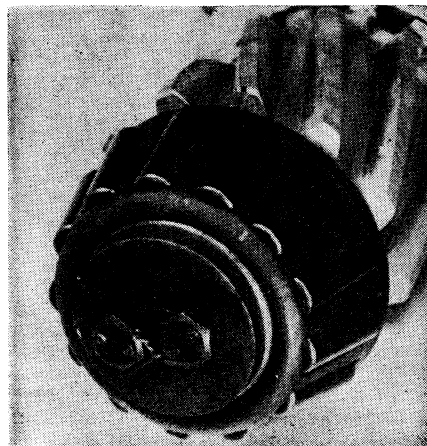

Fig. 19 Cross shaft bearing retainers; Left, plate and cap screws. Right, nuts and lock rings
25. Cross shaft bearings are retained either by nuts and lock rings or plates and cap screws which are lock wired, Fig. 19. Clip the lock wire and remove cap screws and retaining plates or clamp slow speed spur pinion in vise with soft jaws. Engage shift collar to lock cross shaft and remove lock rings and nuts from both ends of cross shaft.